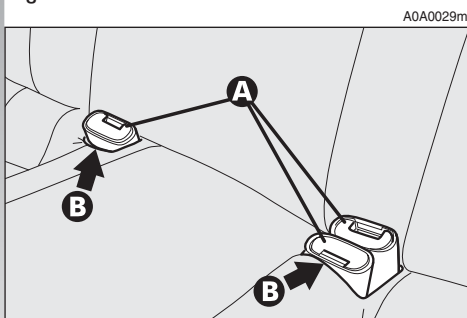

fig. 23
- fit the buckles of the seat belts (**A-fig. 23**) in their housings (**B**) on the cushion;